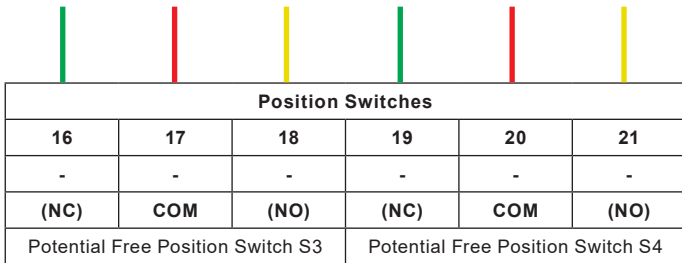

Fig. 13 Auxiliary Travel Switch Terminal Diagram
- Connect the wiring harness from switch S3 to terminals 16-18, and switch S4 to terminals 19-21 as shown in Fig. 13 Auxiliary Travel Switch Terminal Diagram
- Refer to Fig. 13 Auxiliary Travel Switch Terminal Diagram to ensure that the VFC is correctly configured to the control system requirement (NO or NC)